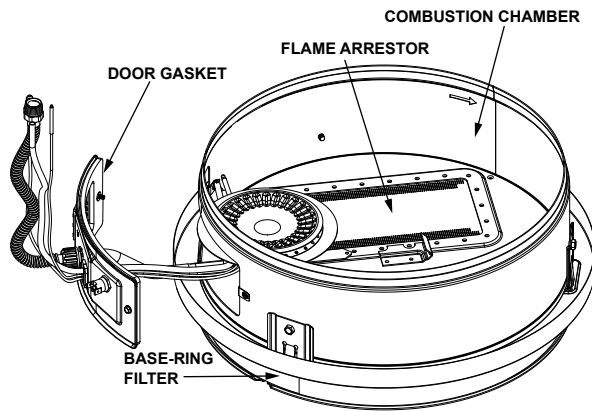

FIGURE 34.
1. At least annually, check the base-ring filter (Figure 34) for any dust or debris that may have accumulated on the filter screen. NOTE: If the water heater is located in an area that is subjected to lint and dirt, it may be necessary to check the base-ring filter more frequently.
2. Use a vacuum cleaner/shop vac to remove all loose debris in the combustion chamber (Figure 34). Use compressed air to clear any dust or debris that may have accumulated in the flame-arrestor.
4. Inspect the door gasket and make sure there is no fiberglass insulation between the gasket and the combustion chamber (Figure 34).
1. Check the door gasket for damage or imbedded debris prior to installation (Figure 34).